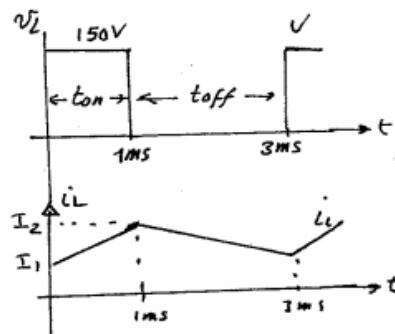

Fig. Q2.
- (a) Waveforms of Voltage  $v_L$  and current  $i_L$  are shown in Fig. Q2.